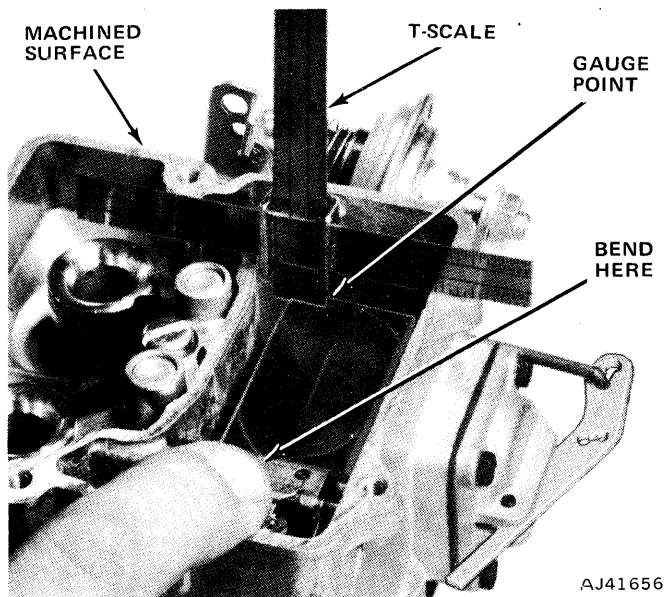

Fig. 4-79 Dry Float Adjustment
(1) Remove air horn assembly and gasket. Raise float by pressing down on float tab until fuel inlet needle is lightly seated.
(2) Using a T-scale, measure distance from the fuel bowl machined surface to the flat surface of either corner of the float, at the free end. Refer to Carburetor Service Specifications for the correct setting.
(3) Bend float tab to adjust. Hold fuel inlet needle off its seat while adjusting to prevent damage to the Viton tipped needle (fig. 4-79).